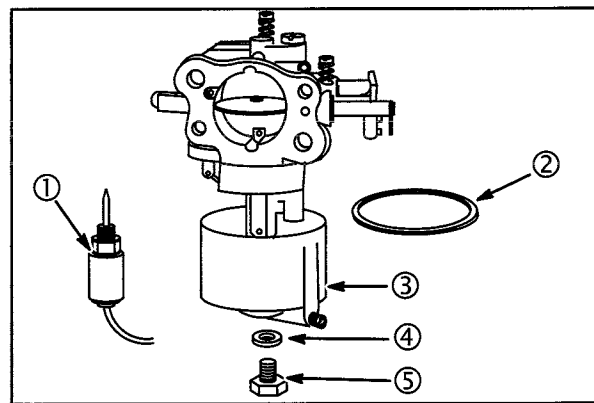

Fig. 23
1. Remove anti-afterfire solenoid (1) or bowl screw (5) and washer (4), **Fig. 23**.
2. Remove float bowl (3). Discard bowl gasket (2).